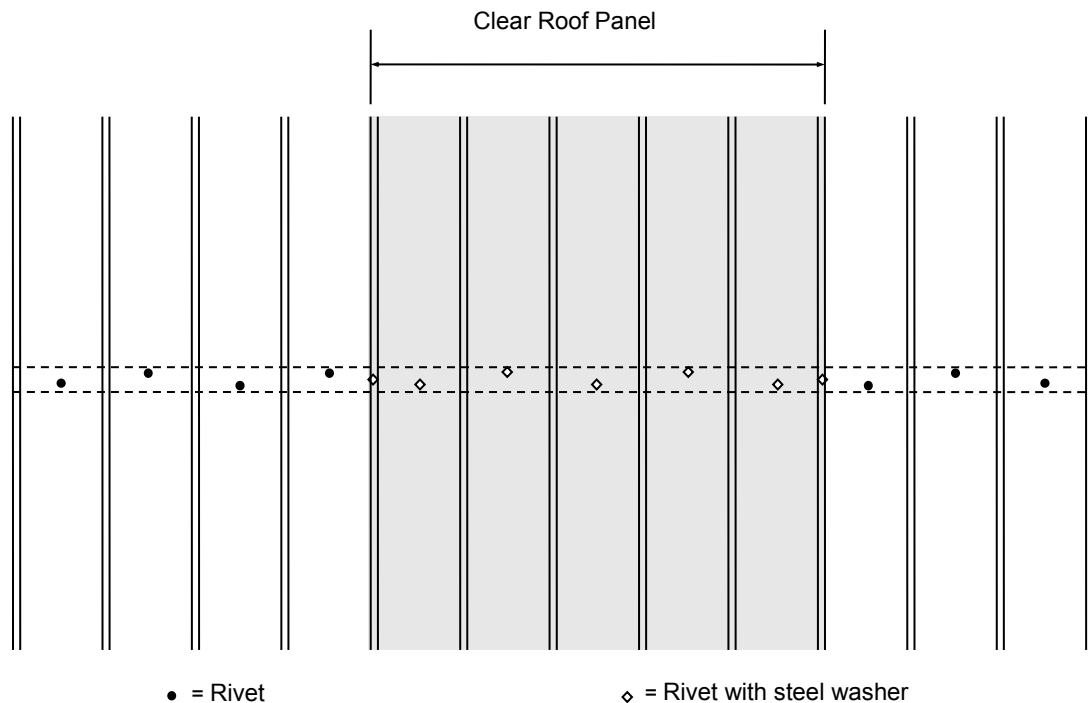

fig. 4
**Step 2a:** Rivet Clear Panel Brace to the Clear Panel, pre-drill holes from underneath then rivet down from on top using sealed rivets with Steel Washers. For riveting detail see **fig. 4**.